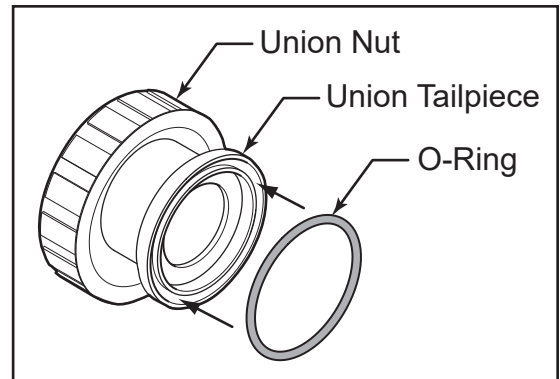

Figure 1. O-ring Placement
8. Place the o-rings on the face of the union tail pieces, where the face of the union will connect to the filter ports, see Figure 1.